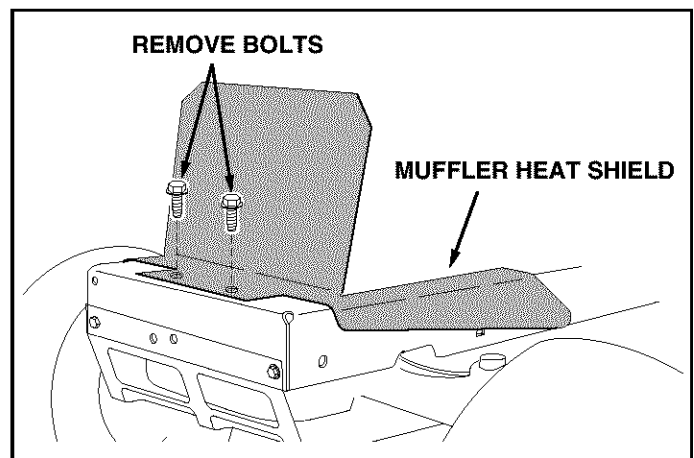

FIGURE 2
- If your tractor has a heat shield like the one in figure 2 remove it to attach bumper, then reinstall shield.